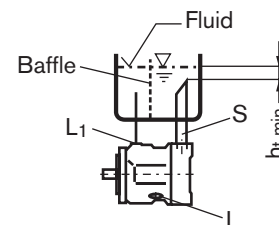

Fig. 5
b) Mounting below the reservoir: pipe ports "L" and "S" according to fig. 5, "L" closed.